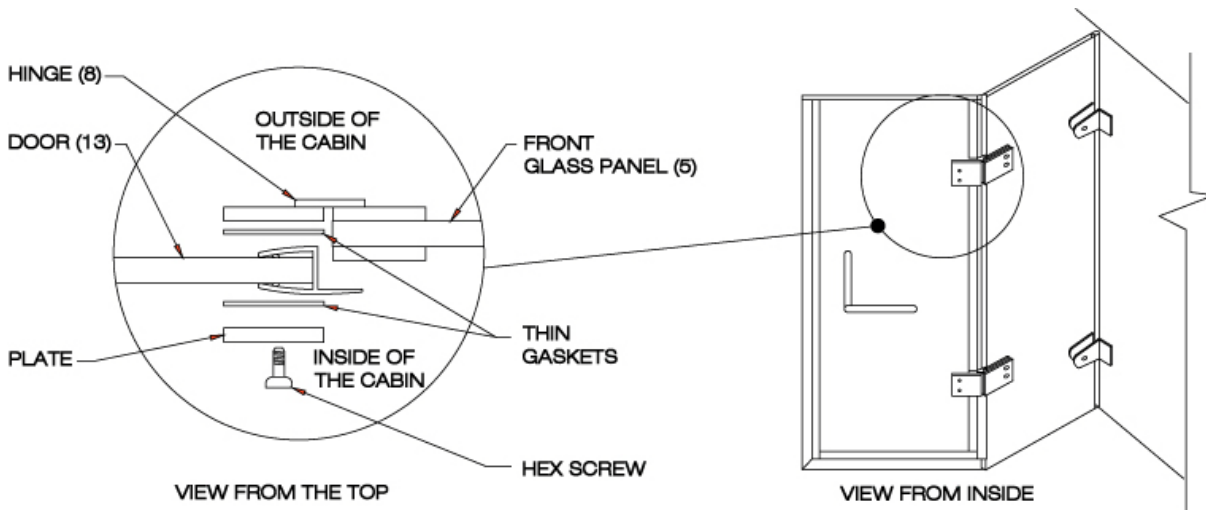

FIG.8
3. Place thin gasket on each of the door, between the glass and the hinge. Continue to hold door in position. [SEE FIG.8]
4. Install the hinges as illustrated (FIG.8) using the alien key (supplied with the hinges).